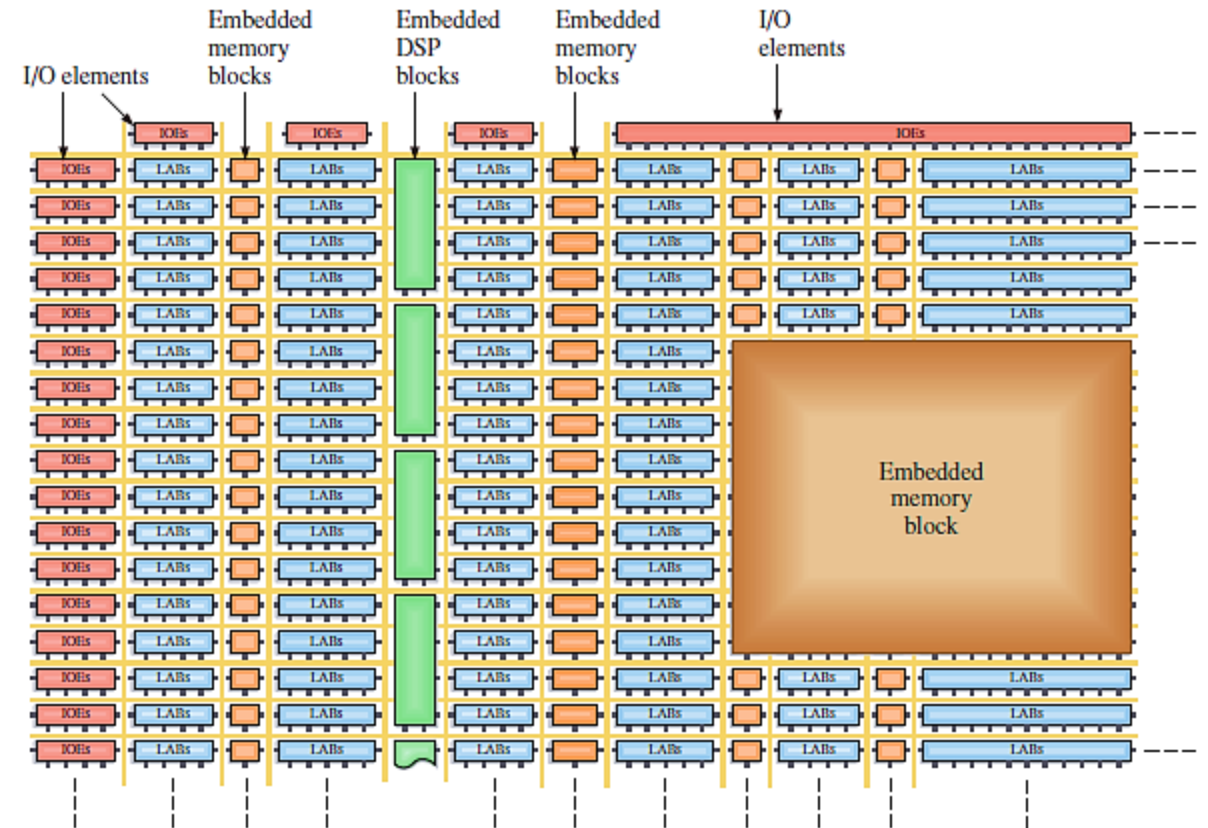

Figure 3 Example FPGA block diagram.
- A block diagram of a typical FPGA is shown in Figure 3. The FPGA contains embedded memory functions as well as digital signal processing (DSP) functions.